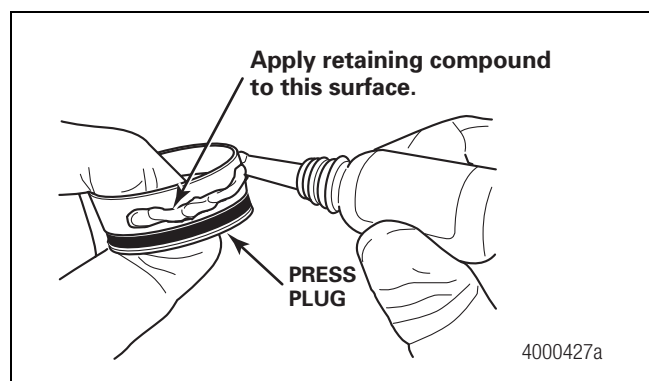

Figure 2.19
14. Put on a new pair of latex gloves. Apply the retaining compound included in the installation kit evenly to the **OUTSIDE** diameter of the press plug. The installation kit contains enough retaining compound for four wheel ends. Divide the material equally among the wheel ends. The press plug must be installed within 10 minutes of applying the retaining compound to ensure that the compound hardens correctly. Figure 2.19.